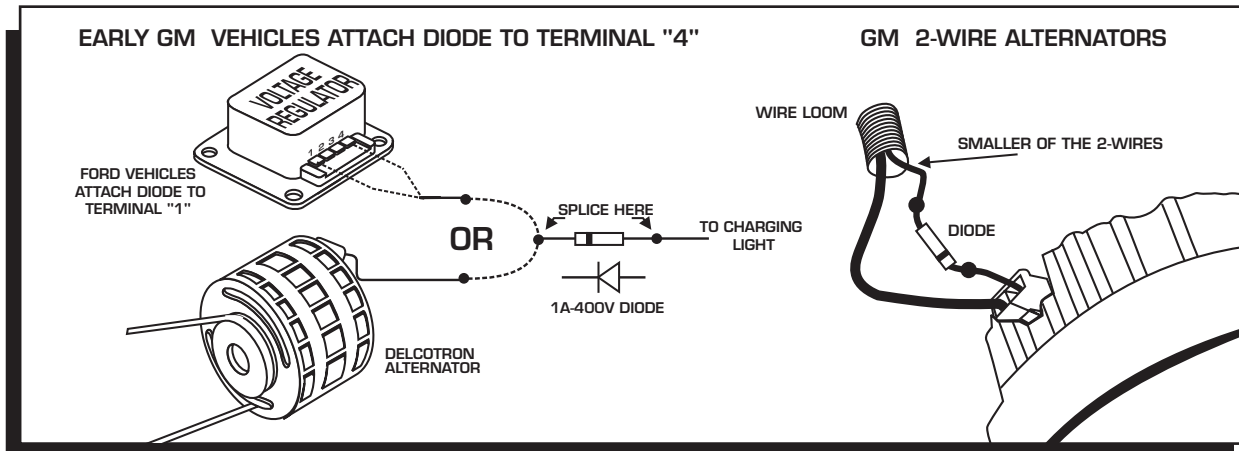

Figure 14 Installing the Diode to fix Run-On.
**Early Ford and GM:** To solve the Run-On problem, a Diode is supplied with the MSD in the parts bag. By installing this Diode in-line of the wire that goes to the Charging indicator, the voltage is kept from entering the MSD. Figure 14 shows the proper installation for early Ford and GM vehicles.
**Note:** Diodes are used to allow voltage to flow only one way. Make sure the Diode is installed facing the proper direction (as shown in Figure 14).
GM Delcotron Alternators use an internal voltage regulator. Install the Diode in-line on the smallest wire exiting the alternator (Figure 14). It is usually a Brown wire.